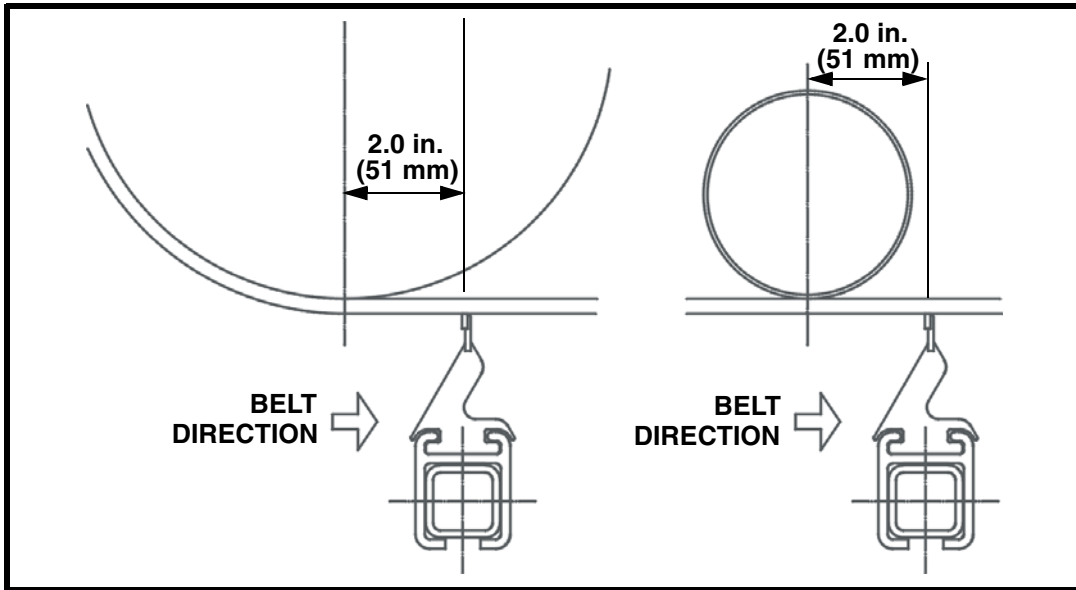

Figure 1a. Belt Direction
Solid backing of the blade is essential to ensure proper operation and efficient cleaning. Install the cleaner adjacent to the head pulley or a flat pressure roller to obtain best cleaning results. See Figures 1a and 1b.
1. On the return side of the belt, locate the tangent point at which the belt leaves the head pulley. Measure a distance 2.0 in. (51 mm) and draw a line perpendicular to the belt at this point. See Figures 1a and 1b.
For installation below pressure rollers, mark the vertical line 2 in. (51 mm) from the centerline of the roller. See Figure 1a.